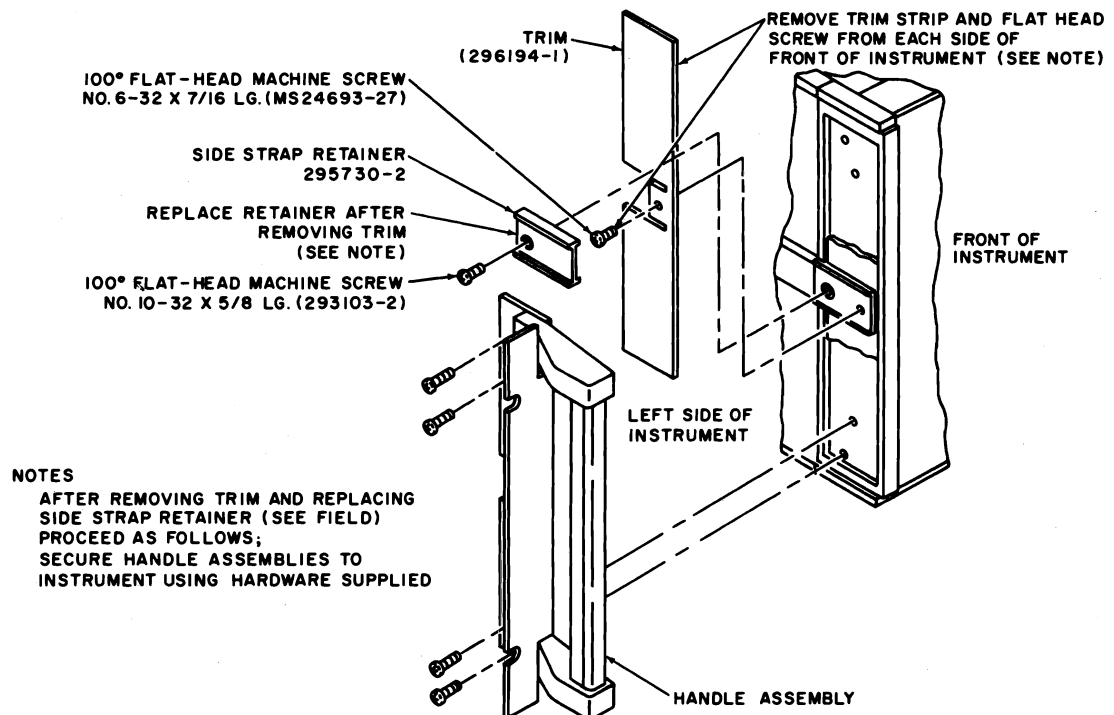

Figure 2-3. Rack Mount Option 049
b. Option 049 Rack Mounting Adapter and Option 050 Slide Mounting Adapter. (See Figures 2-3 and 2-4).